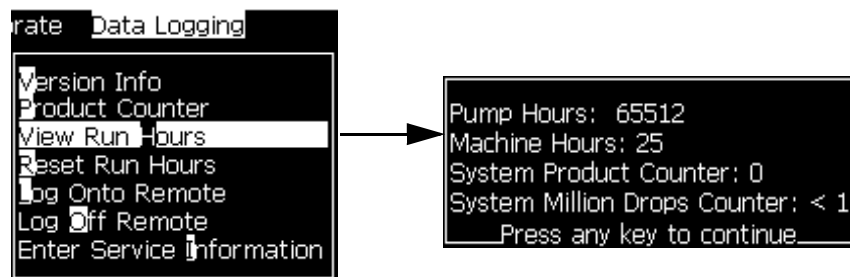

Figure 4-17: View Run Hours
- 1 Select *View Run Hours* (see Figure 4-17) from the *Data Logging* menu. The run hours dialog box appears.